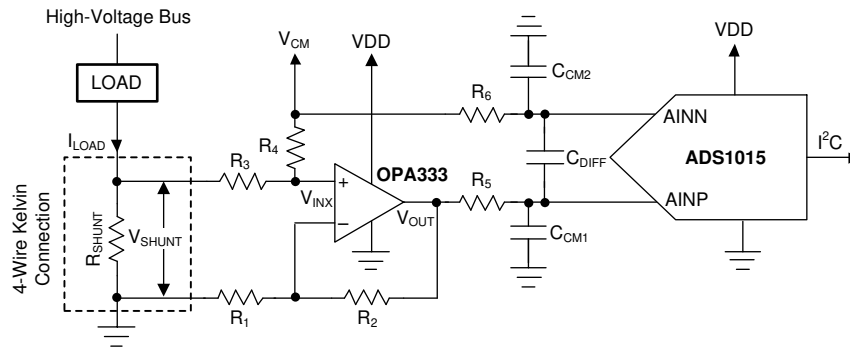

Figure 9-6. Low-Side Current Shunt Monitoring
Shunt-based, current-measurement solutions are widely used to monitor load currents. Low-side, current-shunt measurements are independent of the bus voltage because the shunt common-mode voltage is near ground. Figure 9-6 shows an example circuit for a bidirectional, low-side, current-shunt measurement system. The load current is determined by measuring the voltage across the shunt resistor that is amplified and level-shifted by a low-drift operational amplifier, OPA333. The OPA333 output voltage is digitized with ADS1015 and sent to the microcontroller using the I²C interface. This circuit is capable of measuring bidirectional currents flowing through the shunt resistor with great accuracy and precision.
- To level-shift the ground-referenced signal to allow bidirectional current measurements while running off a unipolar supply. The voltage across the shunt resistor, V_{SHUNT}, is level-shifted by a common-mode voltage, V_{CM}, as shown in Figure 9-6. The level-shifted voltage, V_{INX}, at the noninverting input is given by Equation 3.
A shunt resistor (R_{SHUNT}) is an accurate resistance inserted in series with the load as described in Figure 9-6. If the absolute voltage drop across the shunt, $|V_{SHUNT}|$, is a larger percentage of the bus voltage, the voltage drop can reduce the overall efficiency and system performance. If $|V_{SHUNT}|$ is too low, measuring the small voltage drop requires careful design attention and proper selection of the ADC, operation amplifier, and precision resistors. Make sure that the absolute voltage at the shunt terminals does not result in violation of the input common-mode voltage range requirements of the operational amplifier. The power dissipation on the shunt resistor increases the temperature because of the current flowing through the resistor. To minimize the measurement errors resulting from variation in temperature, select a low-drift shunt resistor. To minimize the measurement gain error, select a shunt resistor with a low tolerance value. To remove the errors caused by stray ground resistance, use a four-wire Kelvin-connected shunt resistor; see Figure 9-6.